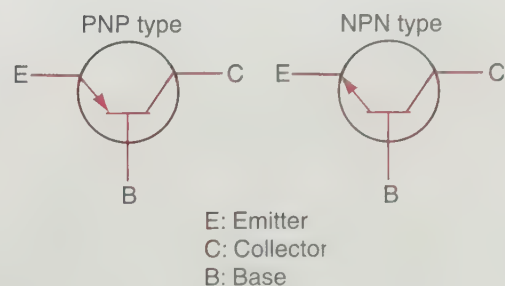

Figure 5-20. Transistor symbols.
However, it is much more efficient than a relay. A transistor can switch on and off more than 200 times a second and does this without using moving parts. A transistor has three terminals; emitter (E), collector (C), and base (B), **Figure 5-20**. There are two types of transistors: PNP (Positive, Negative, Positive) and NPN (Negative, Positive, Negative).